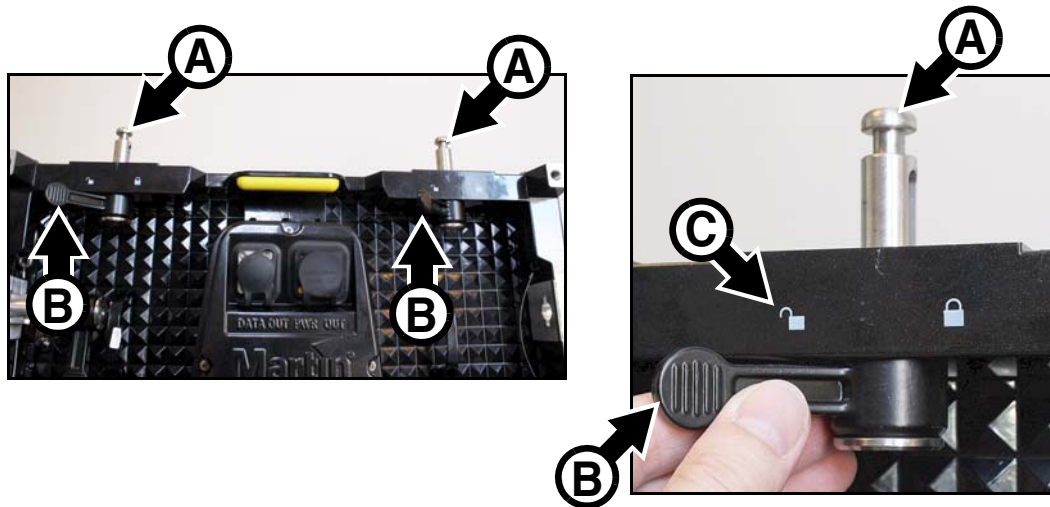

Figure 26: Vertical connection posts
2. See Figure 26. On the first panel, push both vertical connection posts **A** up through the top rail of the panel. Turn both locking levers **B** to the **Unlocked** position **C**.